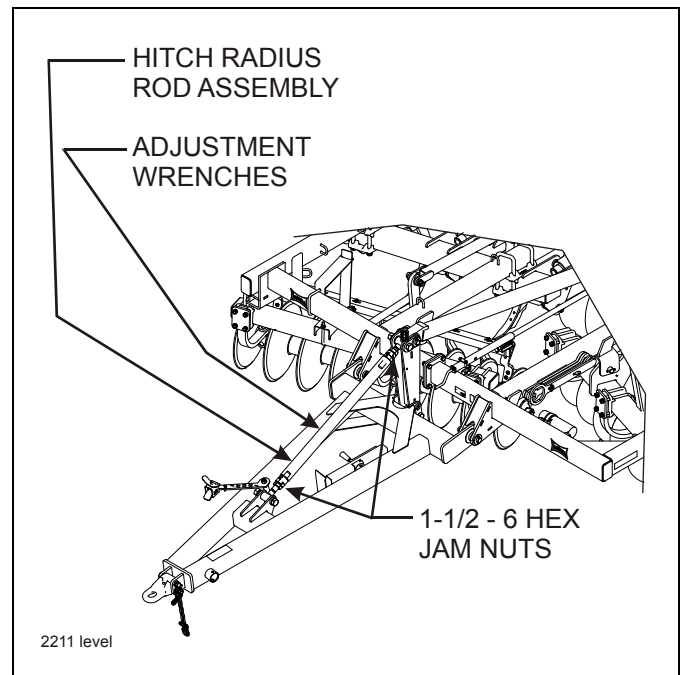

Figure 4-8: Radius Rod Leveling Adjustment
3. To adjust the leveling feature, loosen jam nuts at each end of the radius rod using the adjustment wrenches provided on the hitch (**See Figure 4-8.**) To raise the front of the Ripoll, lengthen the radius rod assembly. To lower the front of the Ripoll, shorten the radius rod assembly. After adjusting, retighten jam nuts at each end. Adjustments should be made in small increments.